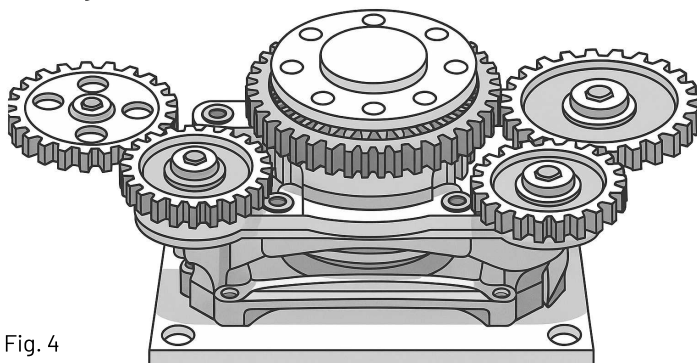

Fig. 4
- Used to secure the balance shafts in their timed position, as shown in Fig. 4. Assemble parts C, D, and E according to the illustration.